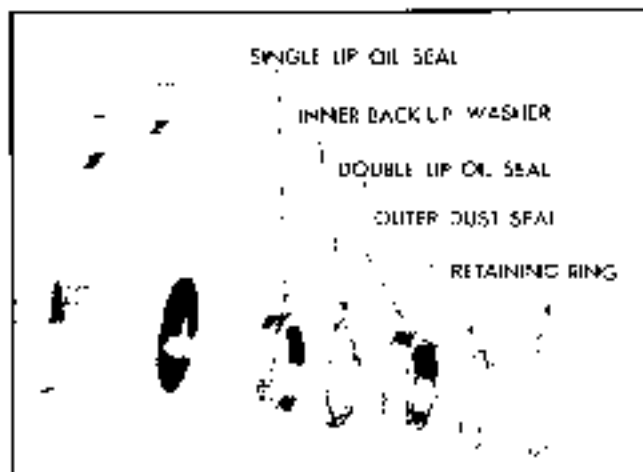

Fig. 9-57 Pitman Shaft Seals and Washers
1. With stamped end of needle bearing against shoulder of adaptor J 6278-3, use remover and replacer J 6278-1 to drive pitman shaft needle bearing into bore from outside of housing until flush-to-1/32" below shoulder. Make sure needle bearings rotate freely (Fig. 9-57).